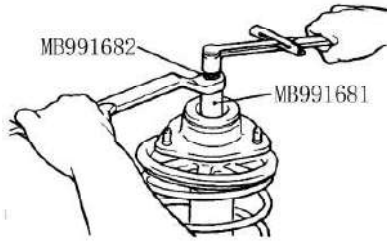

Fig.14A-6
(2) Using the special tools, loosen the self-locking nut.(Fig.14A-6)